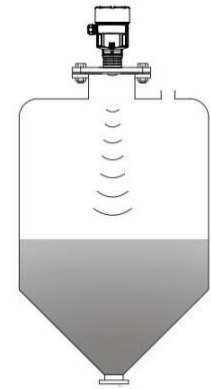

Figure 3
- ◆ When the container is a conical bottom, flat-top tank, the instrument should be installed in the middle of the tank top so as to measure to the medium level close to the tank bottom. Please refer to figure 3 at right.